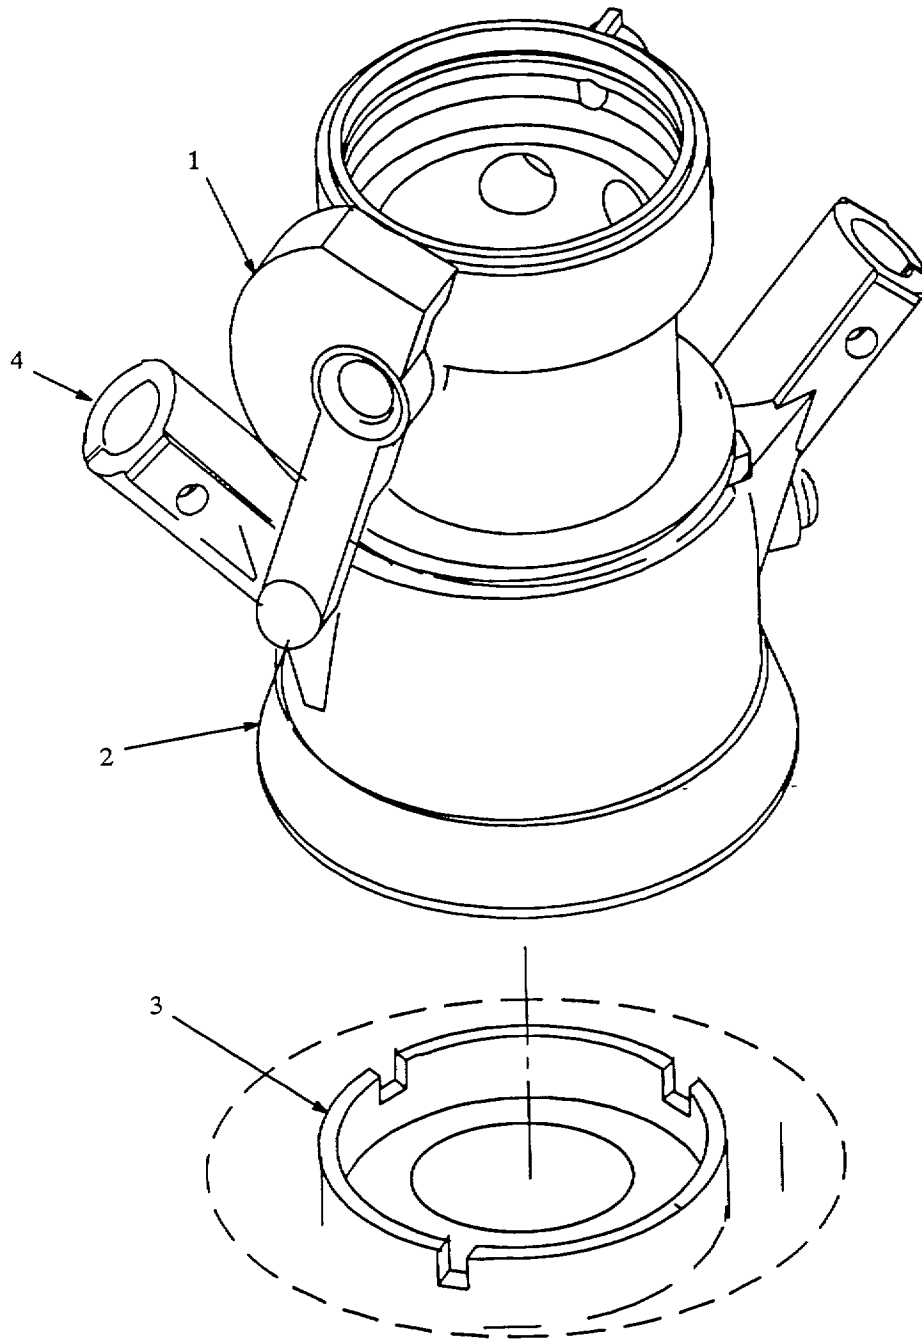

Figure 5-8. Recirculation Nozzle Functional Test.
- (1) Functional Test. Refer to figure 5-8.
- (a) Attempt to move lever (1) to the OPEN position. Lever must not move to OPEN position.
- (b) Connect nozzle (2) to test adapter (3) (para 2-12b).
- (c) Rotate lever (1) to the OPEN position until it passes over center and stops against the internal stop.
- (d) Grab handles (4) and attempt to remove nozzle (2 from adapter 33). Nozzle should not disconnect.
- (e) Position lever (1) to CLOSE, then OPEN position. Repeat a minimum of five times. Lever should be not bind or require excessive force to operate and must lock over center in the CLOSED position.
- (f) Position lever (1) to CLOSED position, and disconnect nozzle (2) from adapter 13) (para 2-12b).